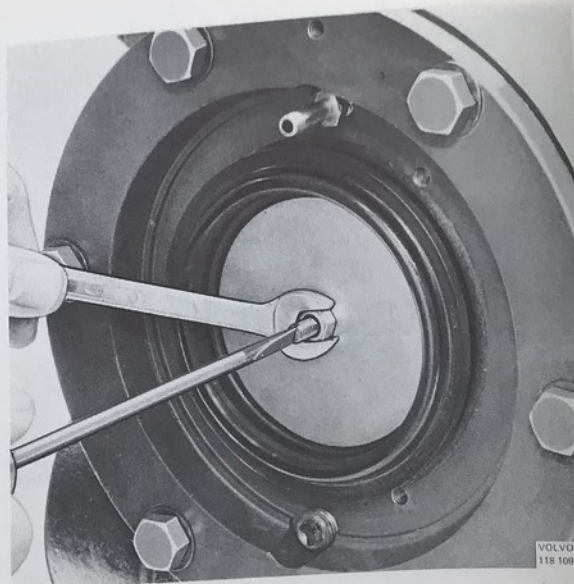

Fig. 92-44. Removing the nut
2. Remove the nut on the thrust rod, see Fig. 92-44.